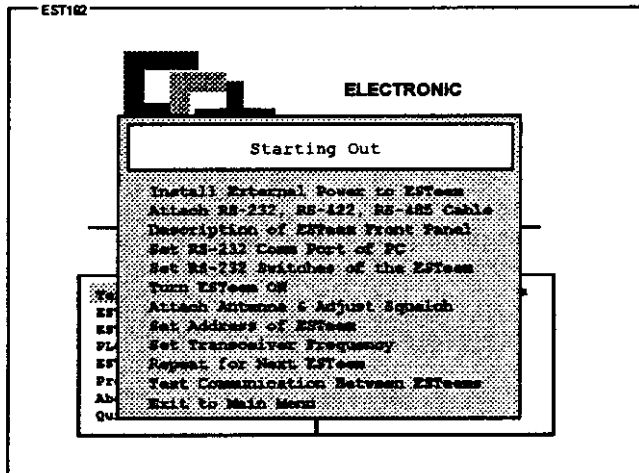

Figure 3: Starting Out Menu
1. Select ESTeem Setup from the main menu. A window like the one in Figure 3 will be displayed.